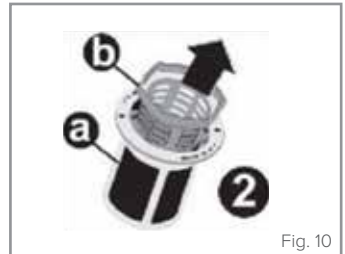

Fig. 10
3. Remove the coarse filter from the microfilter (Fig. 10).